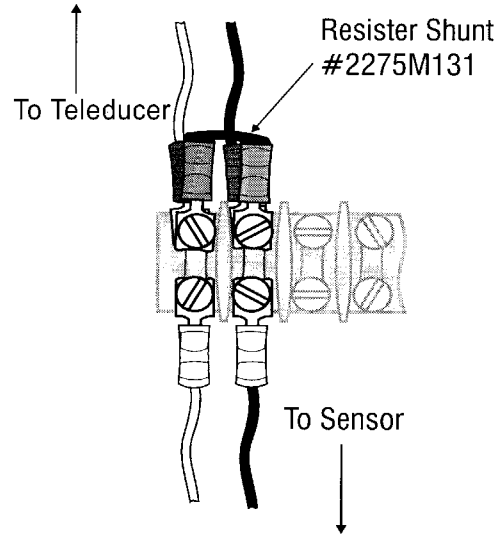

Figure 7
For current sensors only, a shunting resistor of 250 ohms must be placed across the input pair as reasonably close to the Teleducer50[®] as possible (See Figure 7 at right). Five (5) pieces are included with each Teleducer50[®]. Additional shunting resistors can be obtained from TX Technology by ordering Part Number 2275M131.